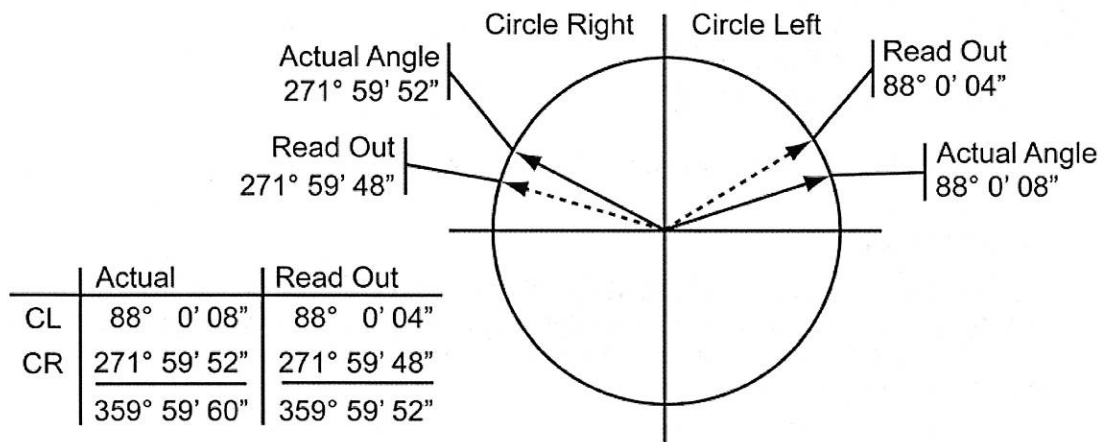

Figure 2. Illustration of Example 1 of Procedure Two
6. Therefore, although the elevation readout indicates an angle of $88^\circ 0' 04''$, the telescope is actually pointing at $88^\circ 0' 08''$, an angle 4 seconds lower than indicated. (See Figure 2.)
- 4.5 **Calculate the X and Y distances to move pin.** Use figures 2 and 3 to determine the location of the shaft and adjust as calculated with calculator or with equations (1) thru (4). Use the "Work Sheet" in Appendix C and appropriate calculator instructions also found in the appendix.